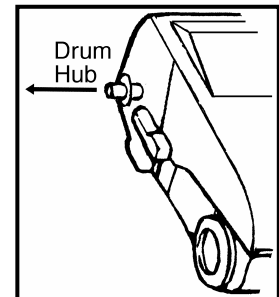
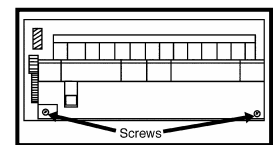

Figure 2
Figure 3
2. Pull the two (2) drum hubs half-way out (Fig. 2). Flip the cartridge upside down. Remove the two (2) philips screws that hold the toner hopper to the cartridge shell (Fig. 3). Carefully separate the toner hopper from the drum/wastebin.